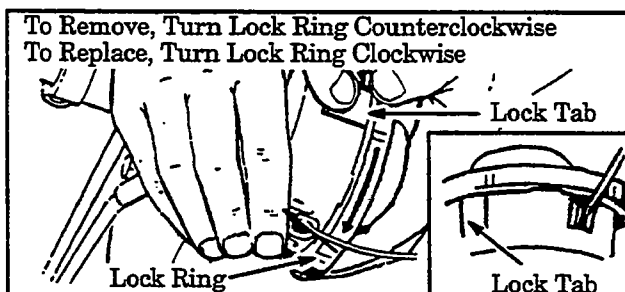

Figure 15
- a. Hold the trimmer head as shown in Figure 15 . Press the lock tab and turn the lock ring as shown in Figure 15 .